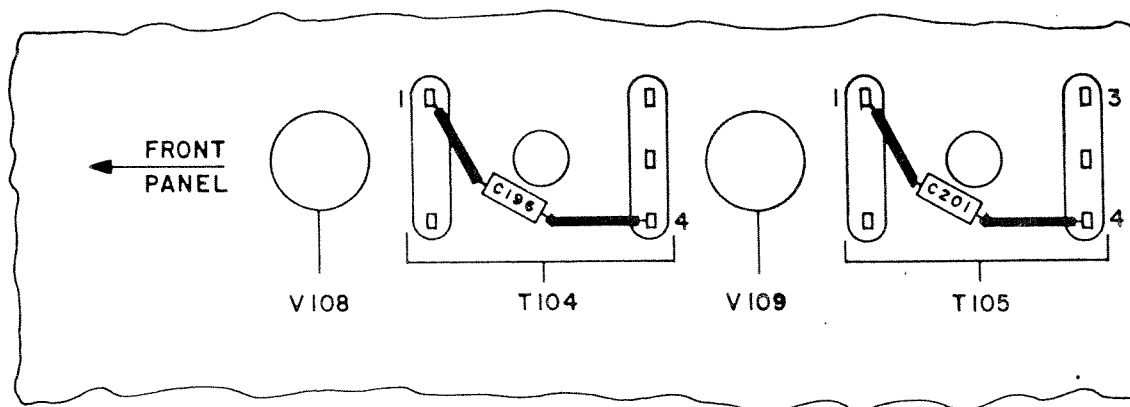

Figure 3. Broadbanding Wiring, Bottom View
- () 50. Referring to Figure 6, locate i-f transformers T104 and T105 on top of the receiver chassis. Locate their terminals below the chassis, as shown in Figure 3 (p. 7).
- () 51. Refer to Figure 3 to find small ceramic capacitors C196 and C201. [51J-2: These capacitors are not used on some models. If not used, omit procedures 51 and 52.] Unsolder, remove, and discard C196 from terminals 1 and 4 of T104.
- _) 53. Connect and solder new capacitor C196 between terminals 1 and 4 of T104, as shown in Figure 3.
- () 67. A single insulated wire or coax connects to terminal 3 of T105 (see Figure 3). The other end connects to a standoff tie-point. To measure diode-detector output voltage, connect a d-c vacuum-tube voltmeter from this tie-point to the chassis. Switch the meter to read negative d-c voltage on a 5- or 10-volt range. Turn the receiver on.